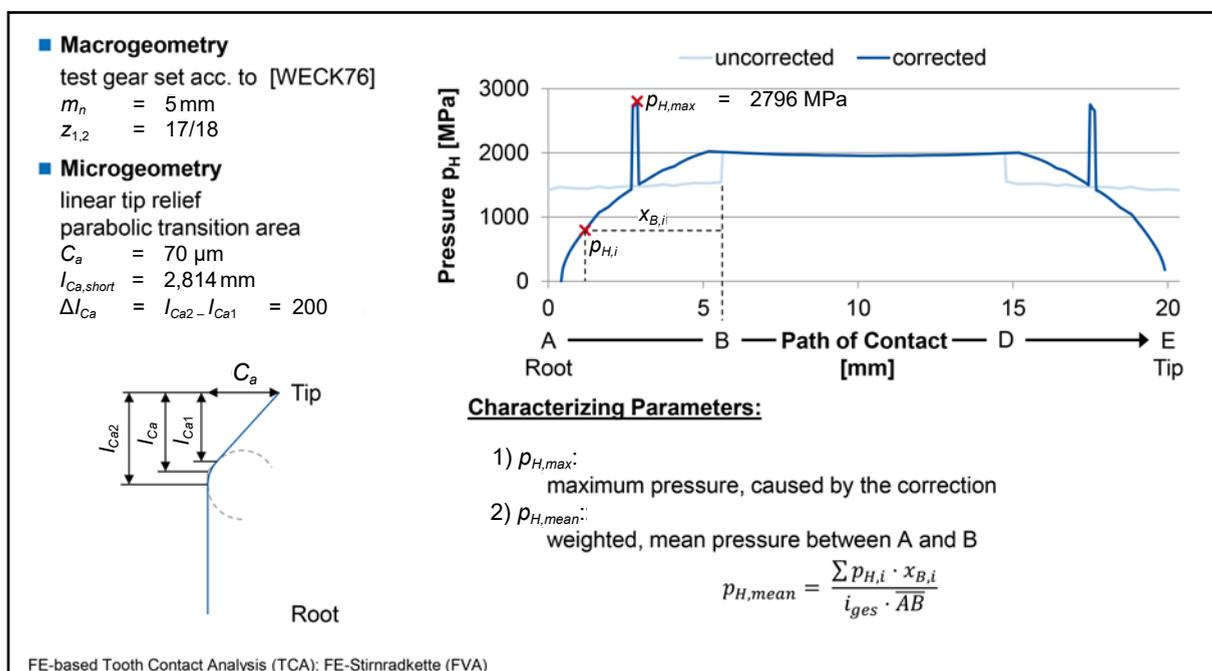

Figure 3 Characterizing parameters for the tooth flank stress.
For the evaluation of the tooth flank stress, the behavior of the calculated pressure along the path of contact is analyzed. In Figure 3 the calculated pressure for a linear tip relief with a transition length of  $\Delta l_{Ca} = 200 \mu\text{m}$  is depicted. Compared to the calculated pressure for an uncorrected gear set, the pressure calculated for the *corrected* gear set is continuously rising — from the beginning of contact (A) to the beginning of double tooth contact (B) — and continuously falling from the end of double tooth contact (D) to the end of contact (E). Hence, the areas of high slip are unloaded. Another difference between the uncorrected and the
ered — i.e., combination of pressure and sliding speed must be taken into account. And so, two characterizing parameters are derived for evaluating the potential increase of tooth flank load carrying capacity of each profile correction form (Fig. 3). Besides the maximum pressure caused by the profile correction  $p_{H,max}$ , a weighted, mean pressure in the area of high negative slip (A-B)  $p_{H,mean}$  is introduced, as the high sliding speed in this area leads to high risk of pitting damages.